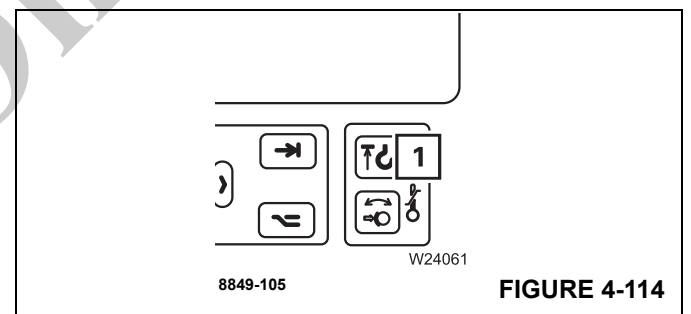

**FIGURE 4-113**
(A), (Figure 4-113) – the hook block raises the Anti Two-Block Switch weight,
(B), (Figure 4-113) – the Anti Two-Block Switch weight touches the ground upon lowering,
(C), (Figure 4-113) – the Anti Two-Block Switch weight is not attached.